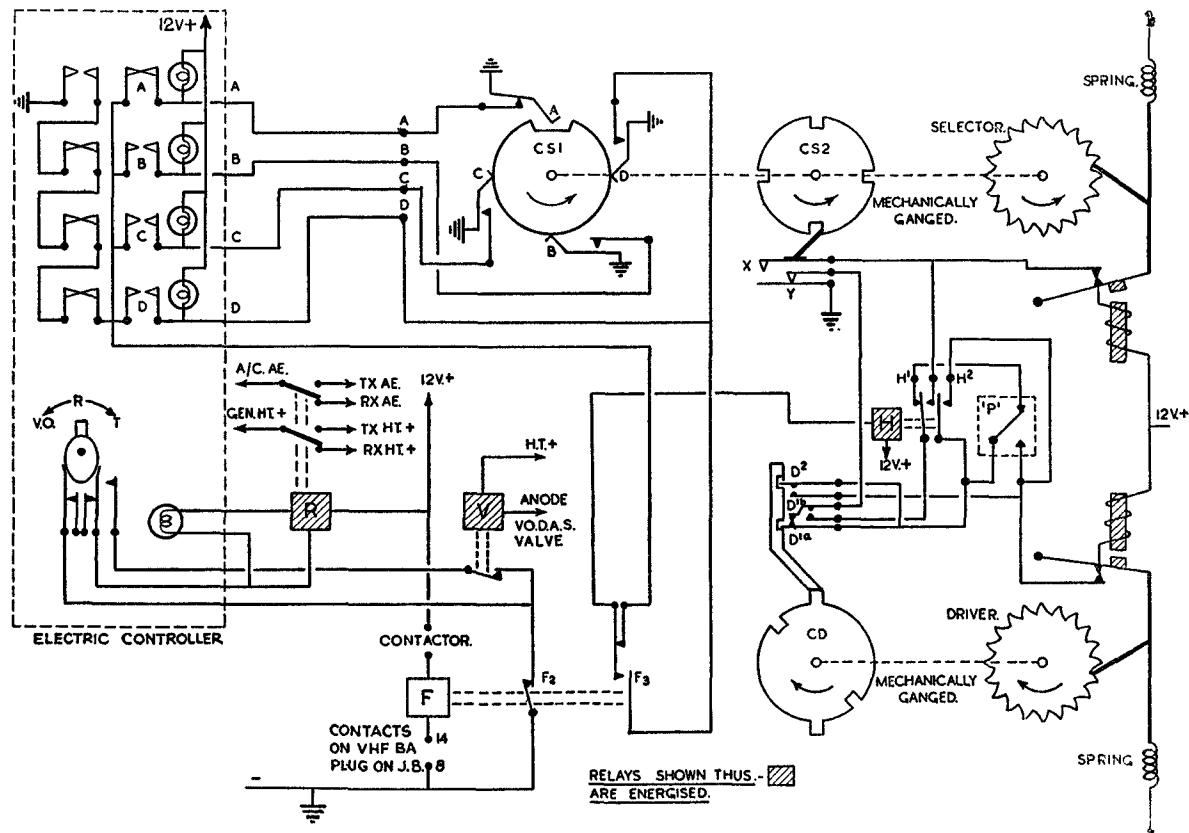

FIG. 80F.—TUNING MECHANISM AT REST ON CHANNEL A
- (iv) *Tuning motor unit* (fig. 80F). This uses two step-by-step motors, one for channel selection and the other for operating the tuning mechanism on the transmitter and receiver units. These are synchronised, so that no movement of the mechanism on transmitter or receiver takes place between channels, thus reducing strain and wear.
23. Relays (see fig. 80F).
- (ii) "*N*" relay. This is the main starting relay, situated in the power unit (not shown on fig. 80F).